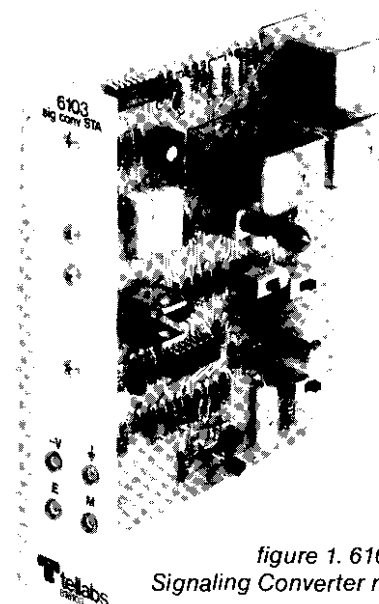

figure 1. 6103 FXS
1.01 The 6103 FXS (foreign exchange, station end) Signaling Converter module (figure 1) provides conversion between facility-side E&M signaling and the loop signaling normally used at the station end of a foreign exchange (FX) or off-premises-station (OPS) circuit. Specifically, the 6103 converts incoming E-lead signals to station-end ringing and seizure states and also converts supervisory and dialing states from the station to outgoing M-lead signals.